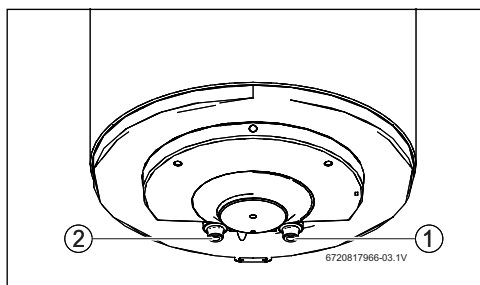

Fig. 9
- Mark the cold water lines and the DHW lines accordingly to avoid confusion (fig. 9).